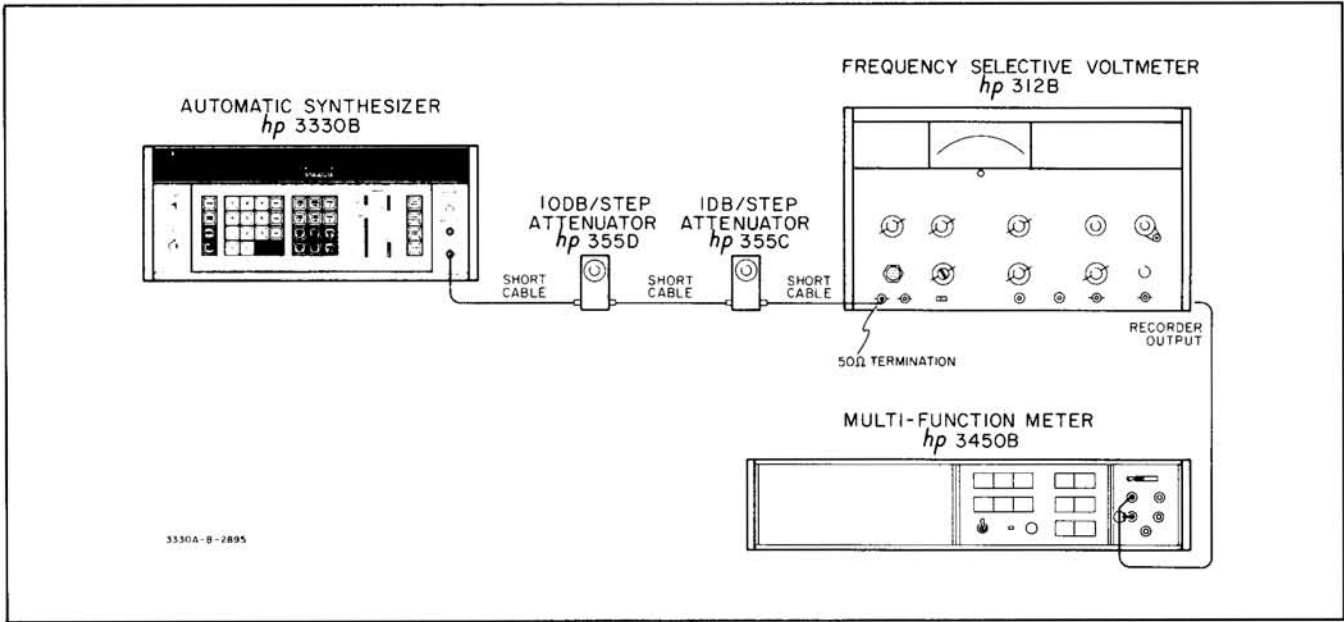

Figure 5-6. 3330B Attenuator Accuracy.
- a. Connect the equipment as shown in Figure 5-6.
a. Connect the equipment as shown in Figure 5-6.